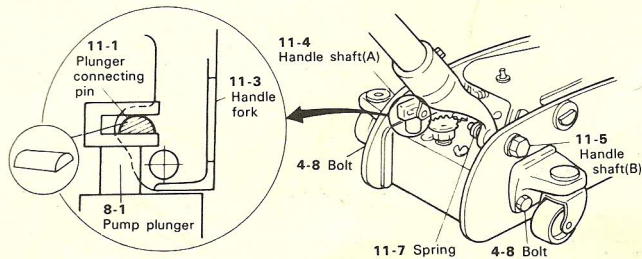

Fig. 1
- 1 When inserting spring (11-7) into handle shaft (B), keep spring (11-7) pushing and then screw in handle shaft (B) (11-5). (Fig.1)
- 2 When assembling handle fork (11-3) after new power unit assembly is set up, put plunger connecting pin (11-1) into pump plunger (8-1). (Fig.1)
- 3 Tighten the bolt (4-8) after confirmation of the handle rotation easily at the lowest position. (Fig.1)